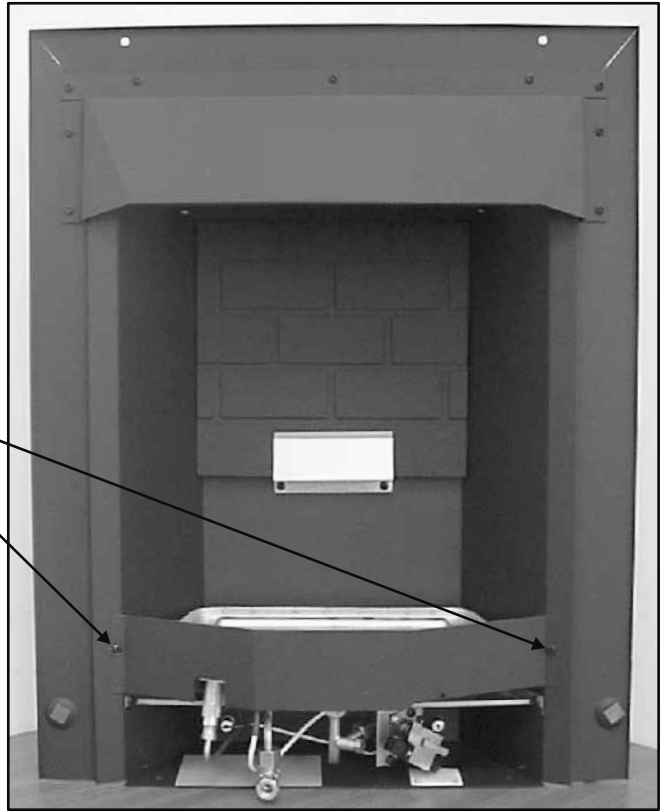

Fig 11.
6.2.2 Remove the fender mask by removing the two screws. Refer to Fig 11.
The Coal Bed and the loose coals are illustrated in Fig 2. The fire is supplied with the rear brick effect panel already fitted as illustrated in Fig 11.